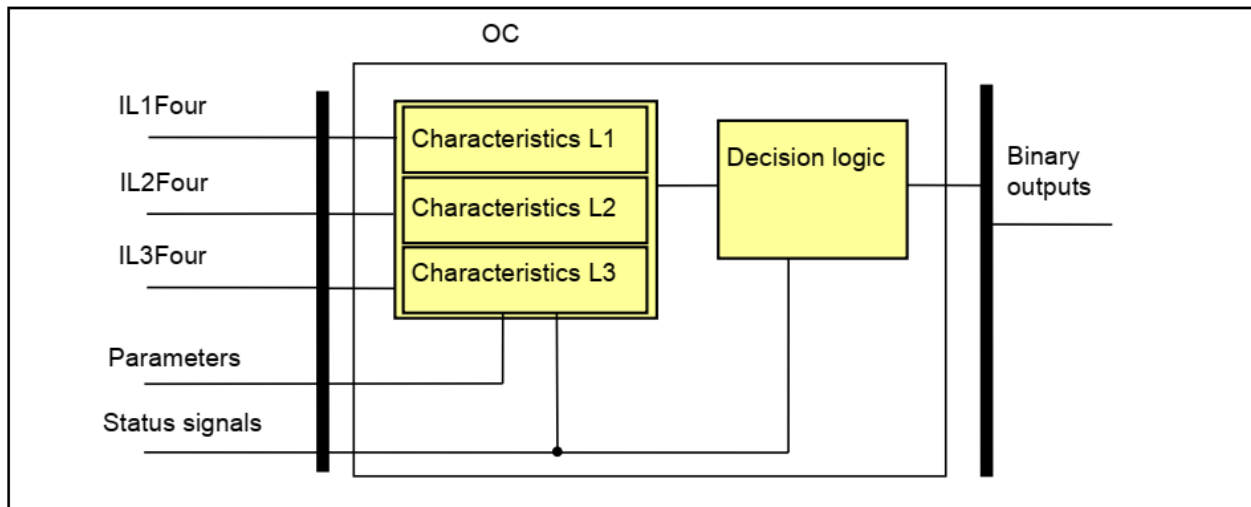

Figure 1-4 Structure of the overcurrent protection algorithm
Fig.1-4 shows the structure of the overcurrent protection (OC) algorithm.